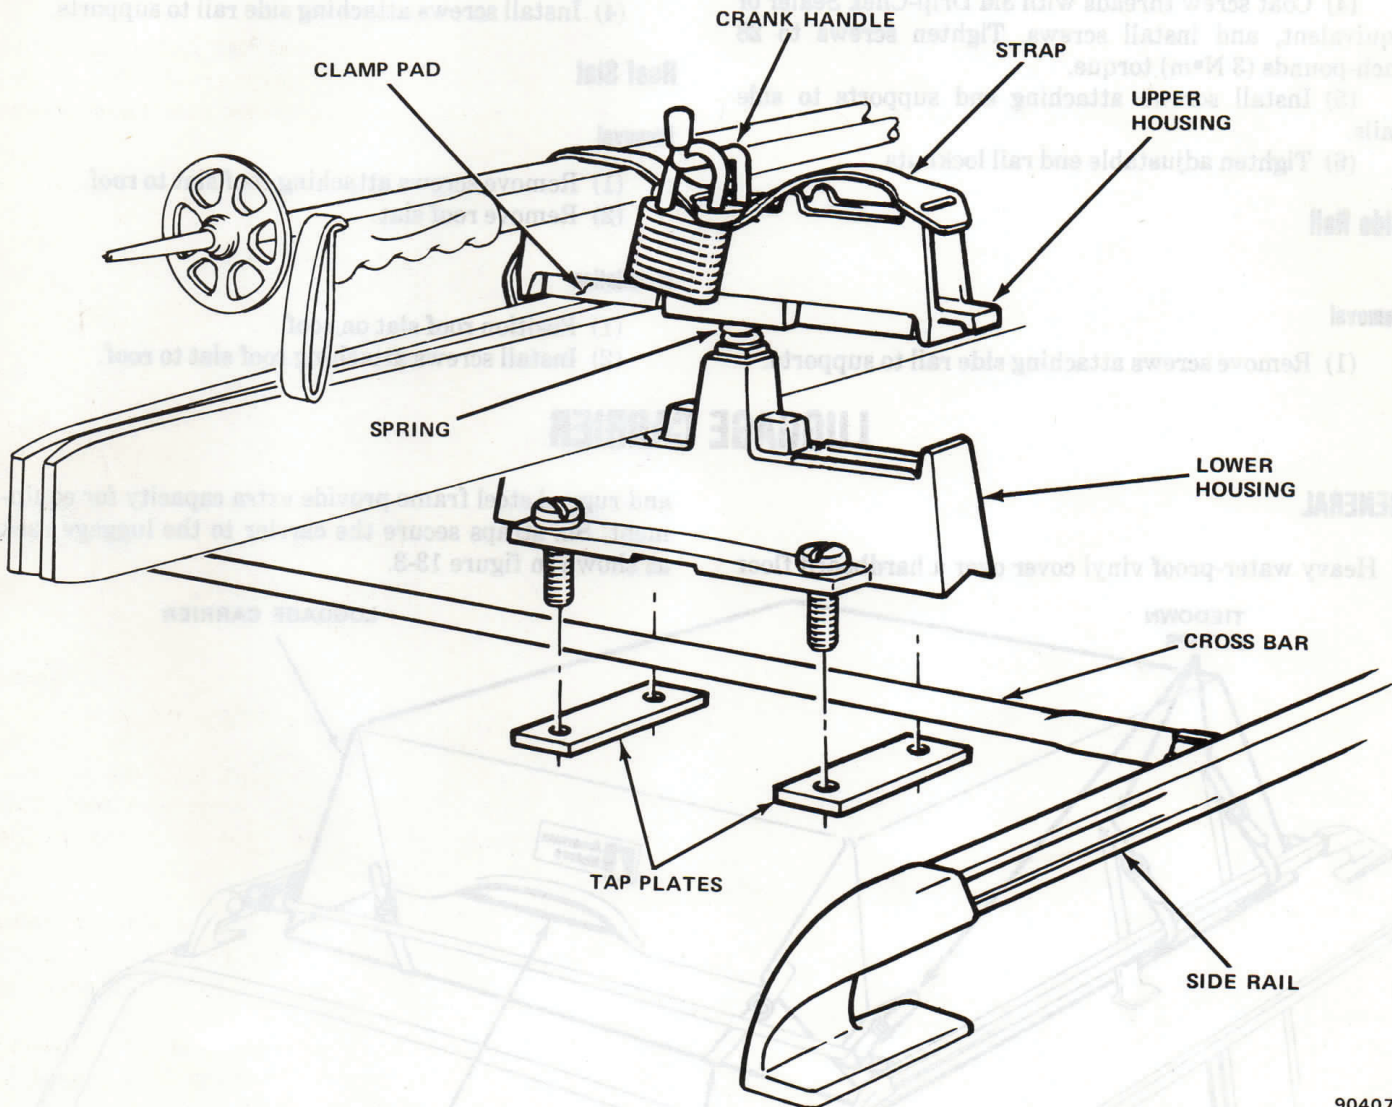

Fig 13-4 Ski Rack Installation
(1) Adjust luggage rack cross rails to obtain a 30- to 36-inch spread.
(2) Place ski carriers on rack cross rails (fig 13-4), position tapping plates below cross rails and engage attaching screws.